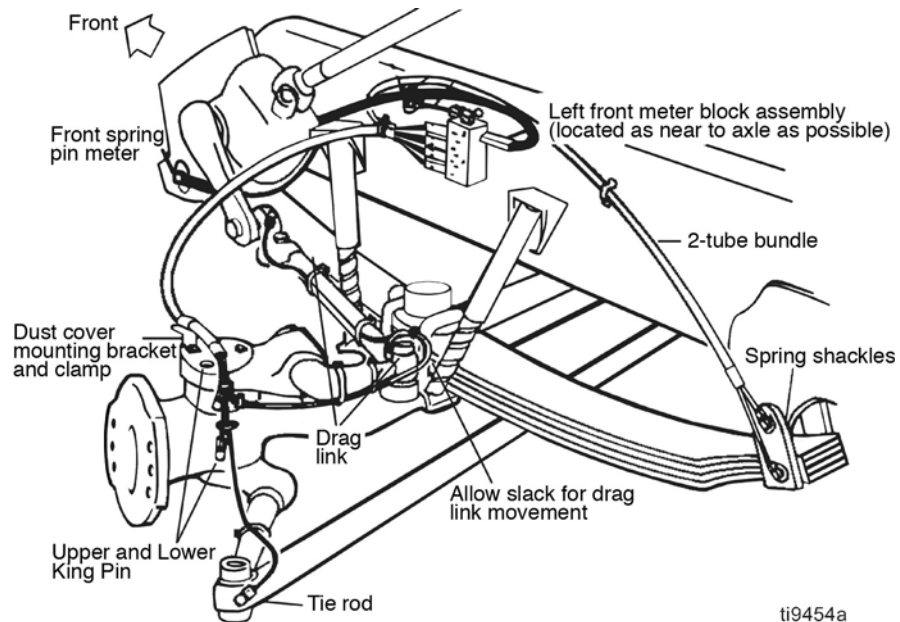
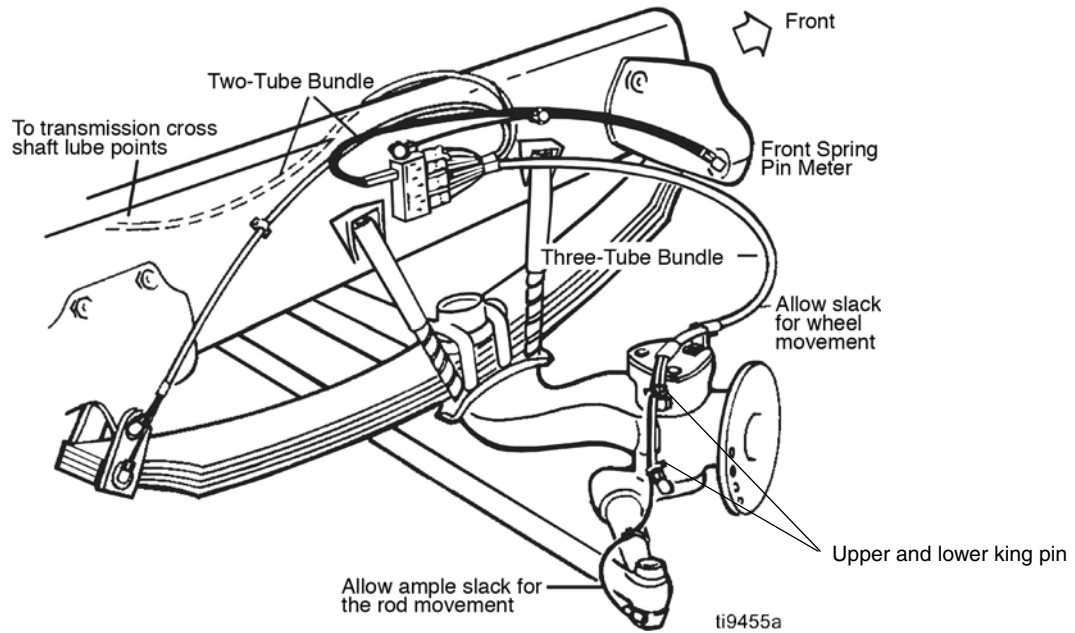
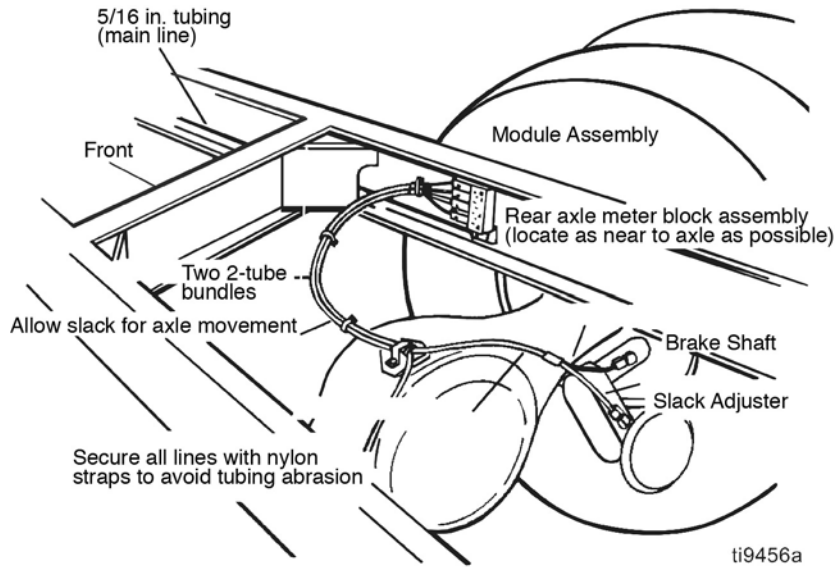
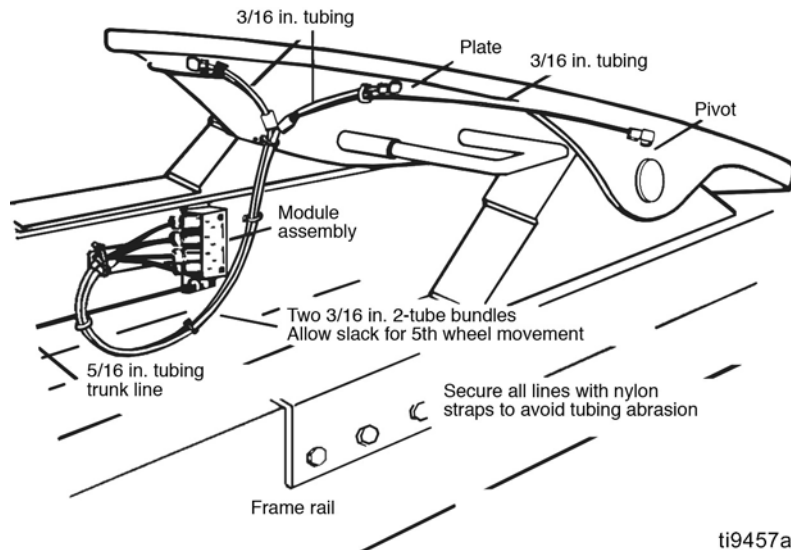

FIG. 8
FIG. 9
FIG. 10
FIG. 11
- Grease Jockey kits come with module assemblies for each strategic area of the chassis to be lubricated: Left Front (FIG. 8), Right Front (FIG. 9), Rear Axle(s) (FIG. 10) and Fifth Wheel (FIG. 11).
### Left Front Module (FIG. 8)
## Right Front Module (FIG. 9)
### Rear Axle(s) (FIG. 10)
### Fifth Wheel (FIG. 11)